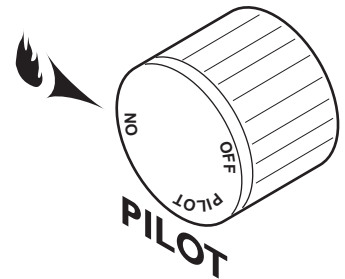

Figure 37- On Position
Depress and turn the knob counterclockwise  to the “ON” position. *See Figure 37.* It will take less than four (4) seconds for the burner to ignite.